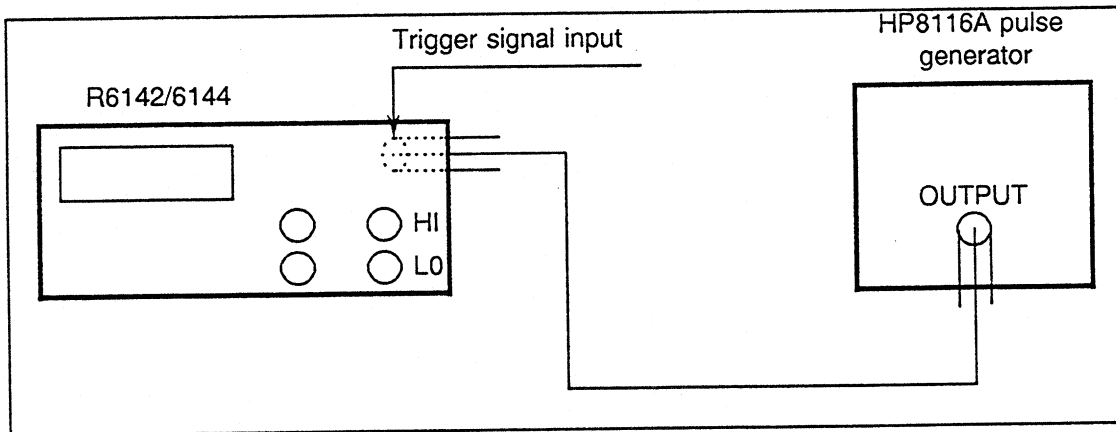

Figure 4-13 Cable Connection for Trigger Signal Test
- ① Connect the R6142/6144 to the HP8116A as shown in Figure 4-13.